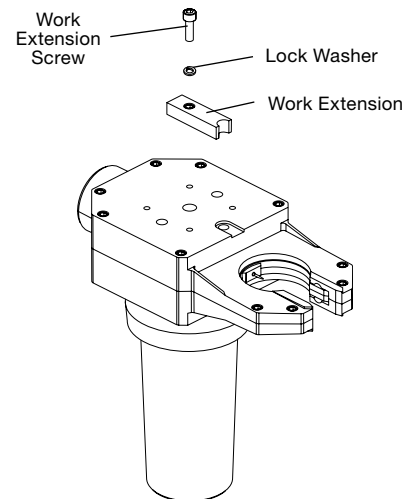

Figure 27 Removing the Work Extension
3. Remove the work extension screw, lock washer, and the work extension. Inspect the work extension for pitting, wear, or damage. See Figure 27.